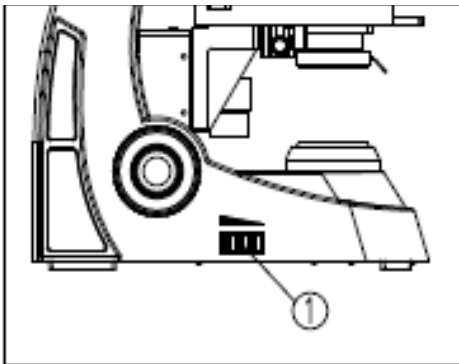

Fig. 8
1. Turn on the main power switch to "O" (ON).
2. Adjust the dimmer knob (1) until the desired illumination is reached. Rotate the dimmer knob clockwise to increase the brightness. Rotate the dimmer knob counterclockwise to reduce the brightness (see Fig. 8).